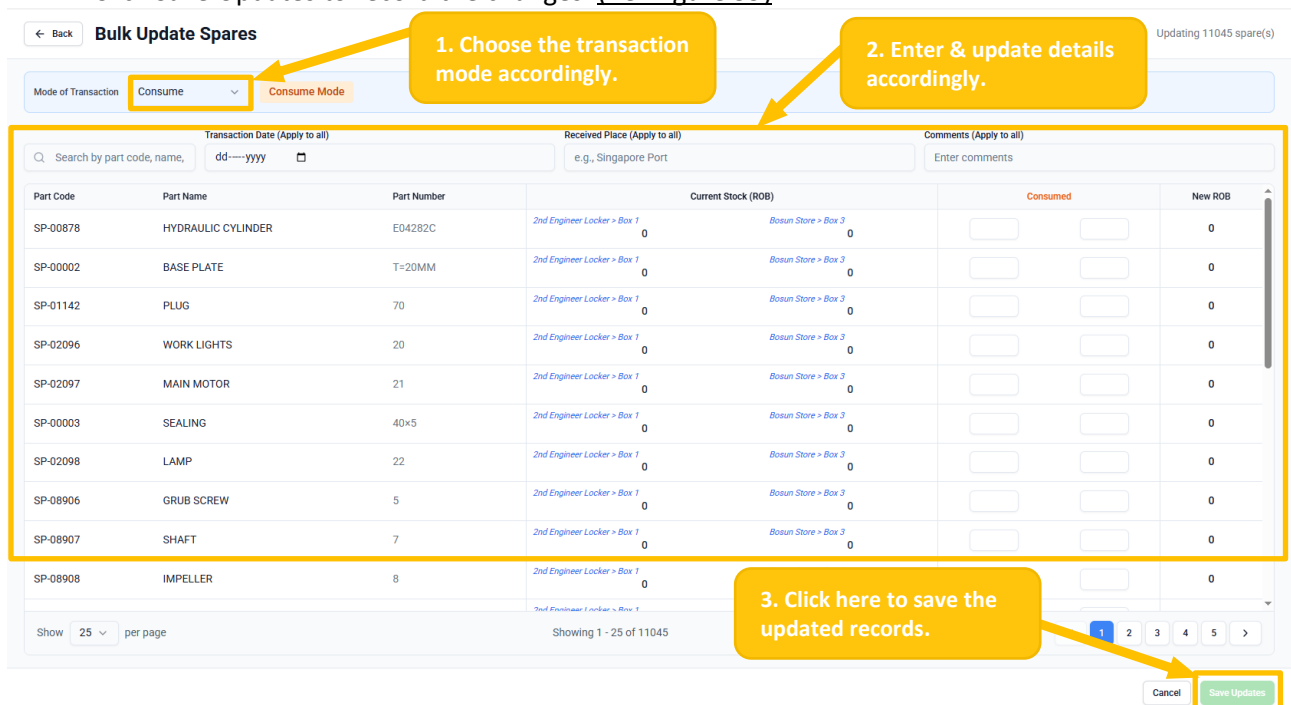

Figure 59
- The screen below appears after clicking the 'Bulk Update Spare' button. (Ref Figure 59)
- Select the transaction mode (Consume or Receive) (Ref Figure 59)
- Enter the necessary details, update quantities in the table (Ref Figure 59)
- Click Save Updates to record the changes. (Ref Figure 59)